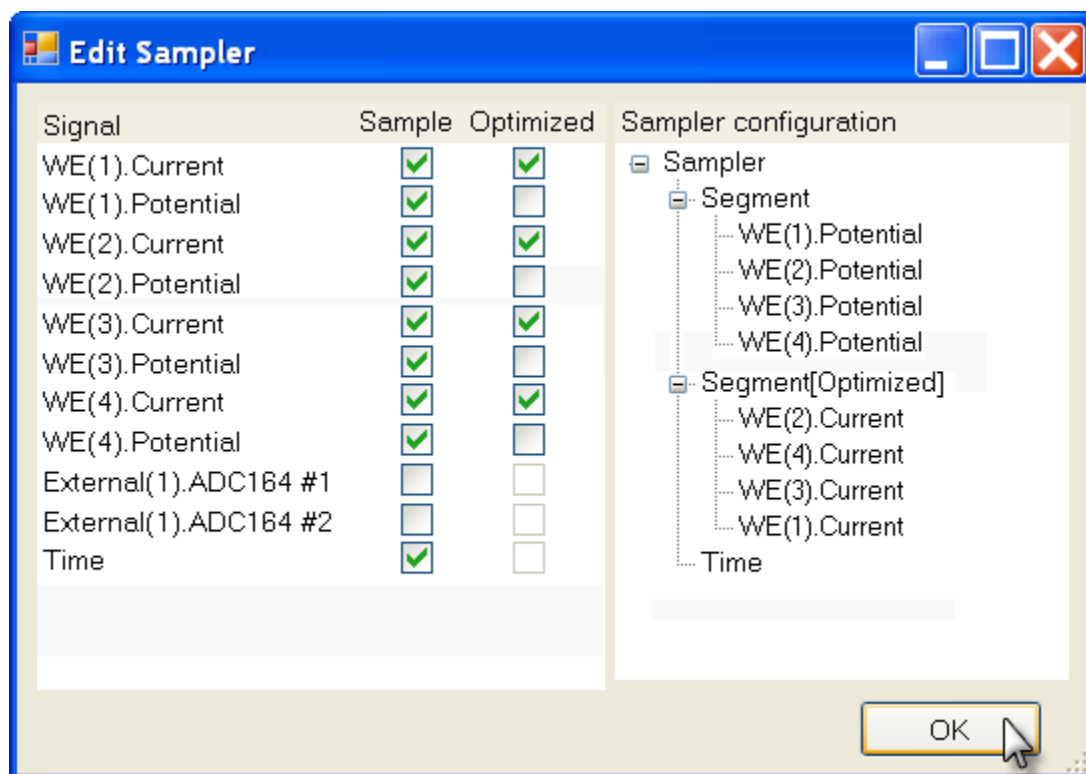

Figure 167 – The WE(x).Current and WE(x).Potential signals are available in the signal sampler
The WE(x).Current and WE(x).Potential signals will be added to the Signal sampler. These signals can be sampled during electrochemical measurements (see Figure 167).
Note: only the signals of the selected modules are shown. In Figure 167, BA modules #2 and #3, corresponding to WE(3) and WE(4), respectively, are present in the instrument but not selected in the Hardware setup.